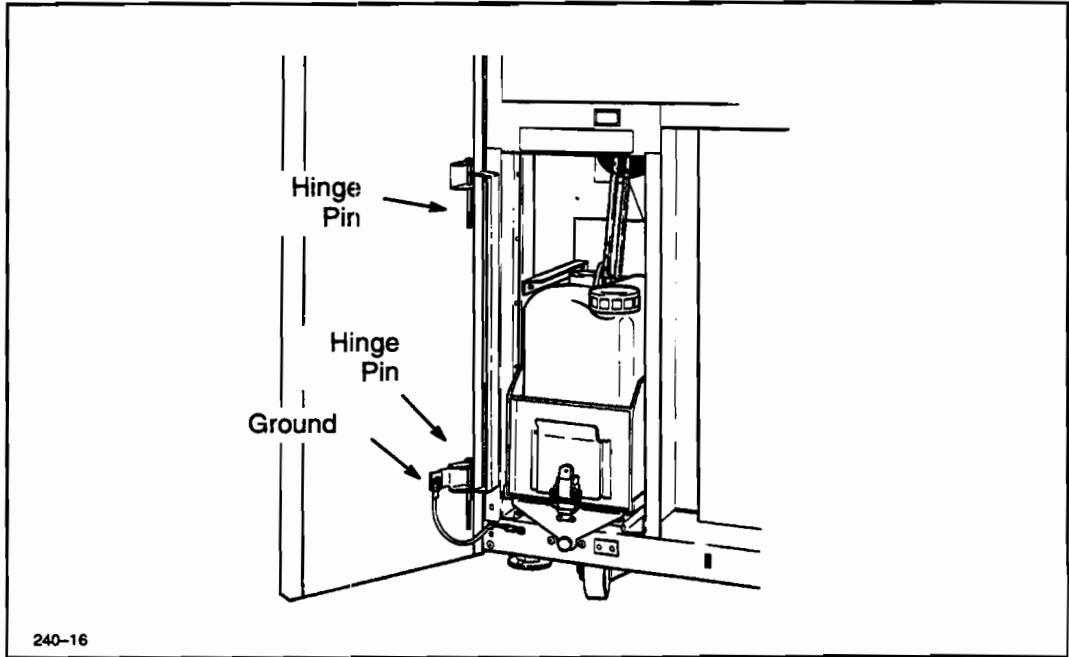

Figure 6-4. Toner Door Removal
3. Disconnect the ground wire from the door at the lower-inside corner of the door. See Figure 6-4.